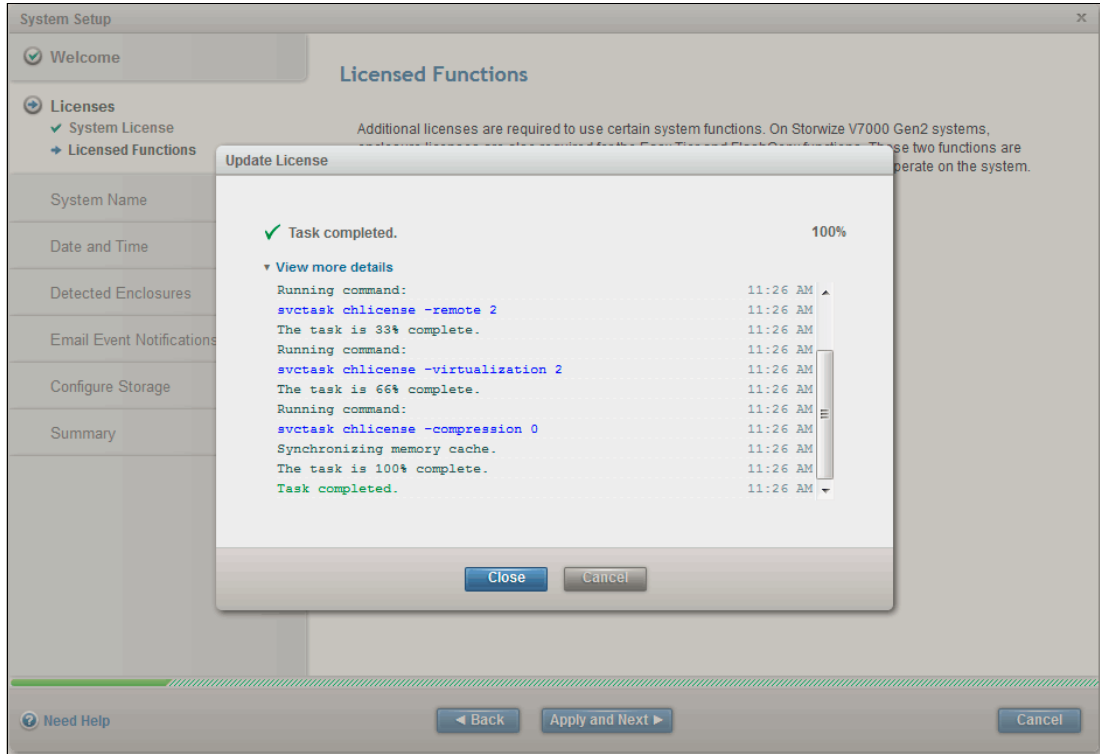

Figure 5-13 Applying licenses
6. Click **Apply and Next**. The system configures the licenses, as shown in Figure 5-13.